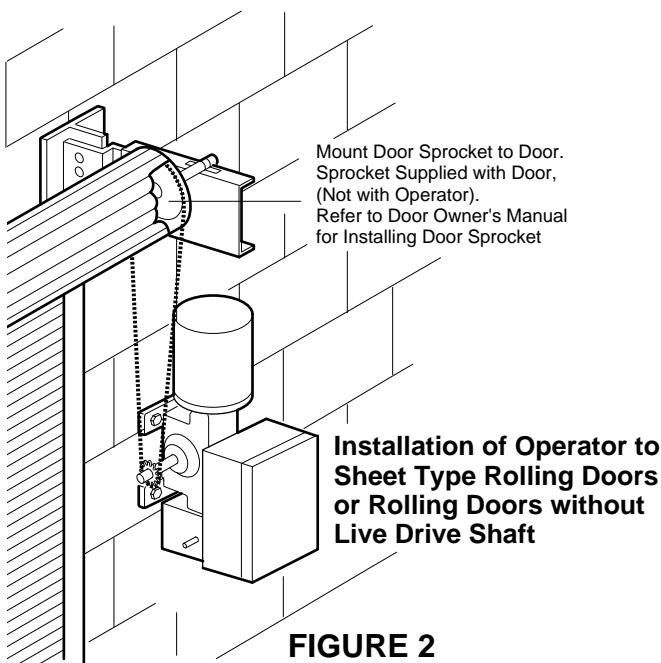

FIGURE 2
**NOTE 1:** On concrete or block walls, install the operator as shown in Figure 2.
**NOTE: Vertical installations are standard, as shown in Figures 2, 3 and 4.**